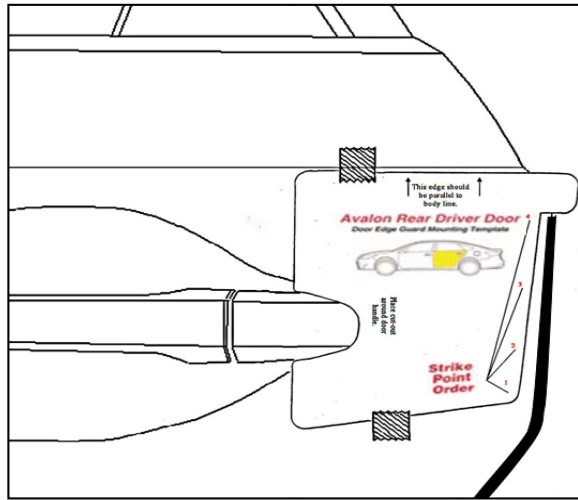

Fig. 1-4
(3) Align the top edge of the DEG (labeled Rear Driver with Green sticker), with the lower edge of the template alignment notch as shown (Fig 1-4).
NOTE: The top of the DEG can be identified by matching the profile of the DEG to the door profile (Fig 1-4).